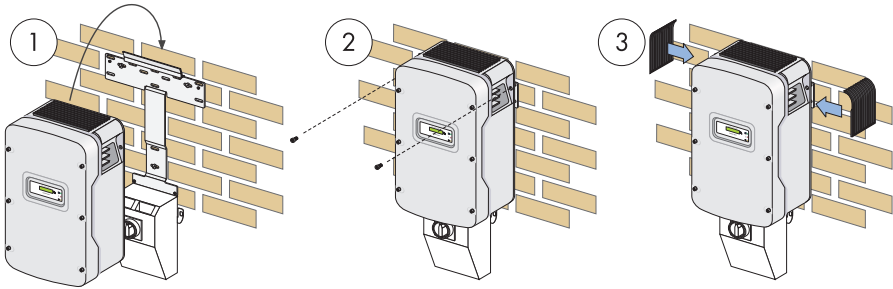

Figure 4-9: Mounting the Sunny Boy
1. Carefully lift the Sunny Boy onto the wall-mounting bracket. Hook the Sunny Boy using the enclosure opening in the back plate into the wall bracket (see # 1 in Figure 4-9).
3. Attach the Sunny Boy to the mounting bracket with the two M6 screws and washers provided through holes next to the fan outputs on both sides of the Sunny Boy (see # 2 in Figure 4-9). The teeth of the washers should face towards the wall in order to ensure proper grounding. Tighten the screws to a torque of 44 in-lb (5 Nm).
4. Close the fan outputs with the handle covers (see # 3 in Figure 4-9) provided in the accessories kit. They are required to adequately prevent insects entering the unit.